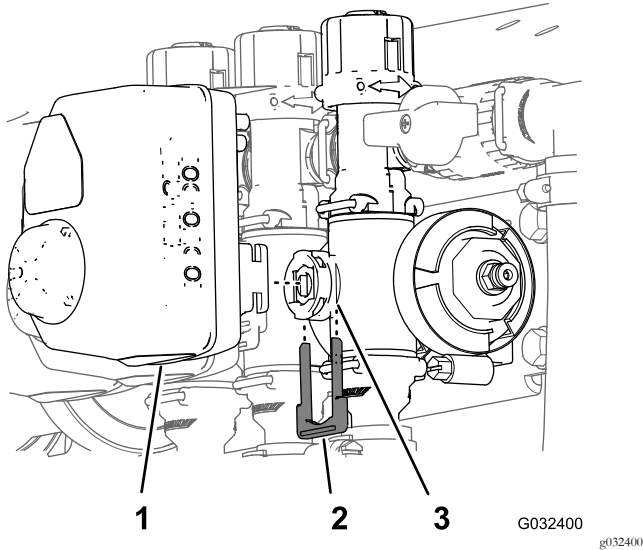

Figure 56
1. Remove the retainer that secures the a actuator to the manifold valve of the section valve assembly (Figure 56).
2. Remove the actuator from the manifold valve (Figure 56).